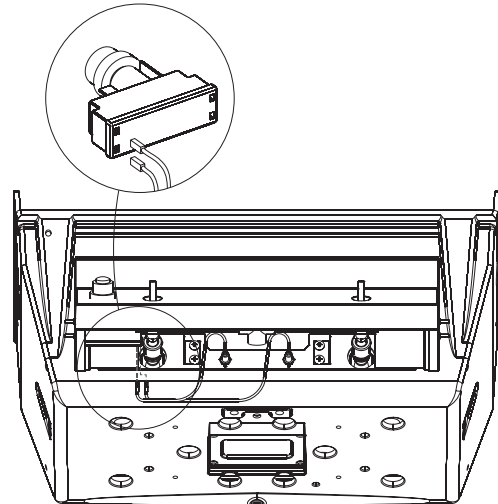

Figure 8
7. Remove ignitor from the control panel by unscrewing the ignitor button and nut. Attach ignitor wires to terminals on the ignitor. See Figure 8.